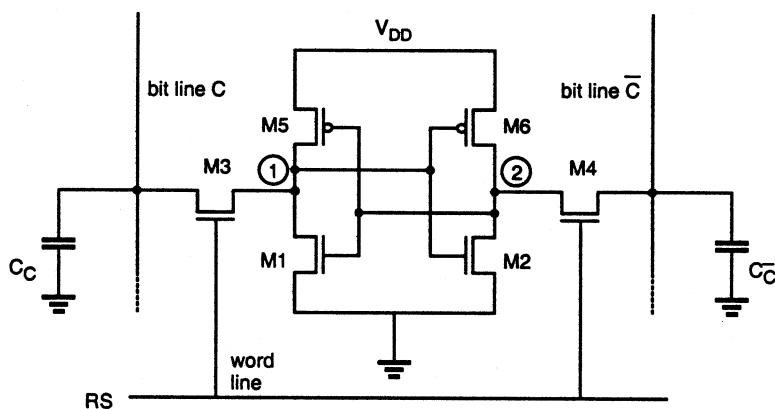

Figure P10.4
- 10.4** Consider the CMOS SRAM cell drawn in Fig. P10.4. Transistors M1 and M2 have  $W/L$  values of 4/4. Transistors M3 and M4 have  $W/L$  values of 2/4. M5 and M6 are to be sized such that the state of the cell can be changed for  $V_C \leq 0.5 \text{ V}$ . Assuming that M5 and M6 are the same size, calculate the required  $W/L$ . Use the following parameter: